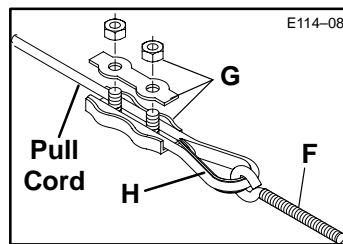

Figure 8: Pull Cord Clamp Assembly and End Fitting Mounting Bracket Eye Bolt Attachment Detail
- h. After correct length of Pull Cord is obtained, the Thimble and Clamp assembly can be attached to Rope and Rope can be attached to Eye of Fitting Mounting Bracket Eye Bolt in the manner shown (Figure 8).